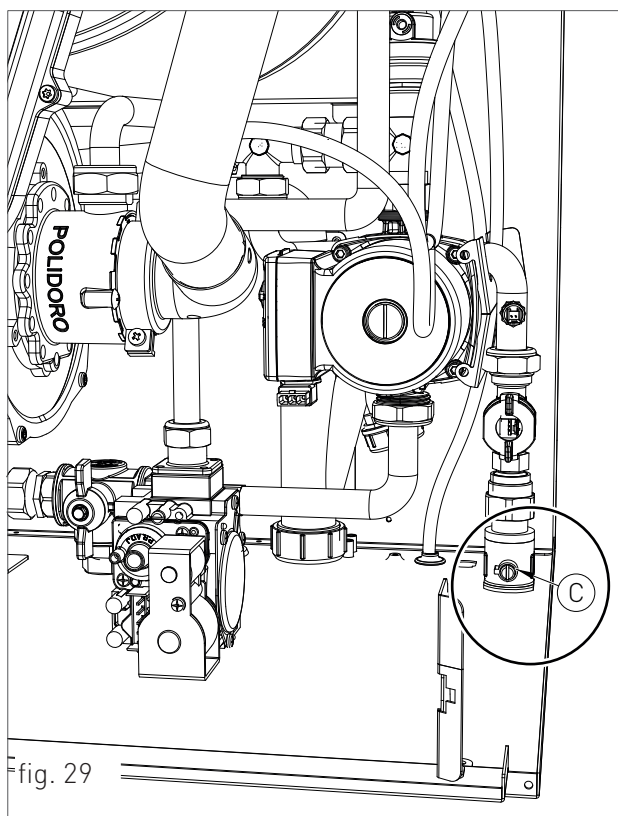

fig. 29
- › Make sure that the value 'd1' is of 5.5 gal, otherwise adjust it through the flow rate regulator (C-figure 29).